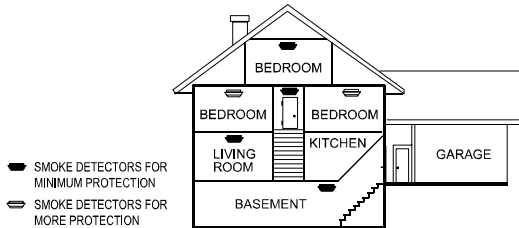

Figure 7. Placing Smoke Detectors in a Multi-Floor Residence
- Install a smoke detector on every floor of a multi-floor home or apartment, as shown in Figure 7.